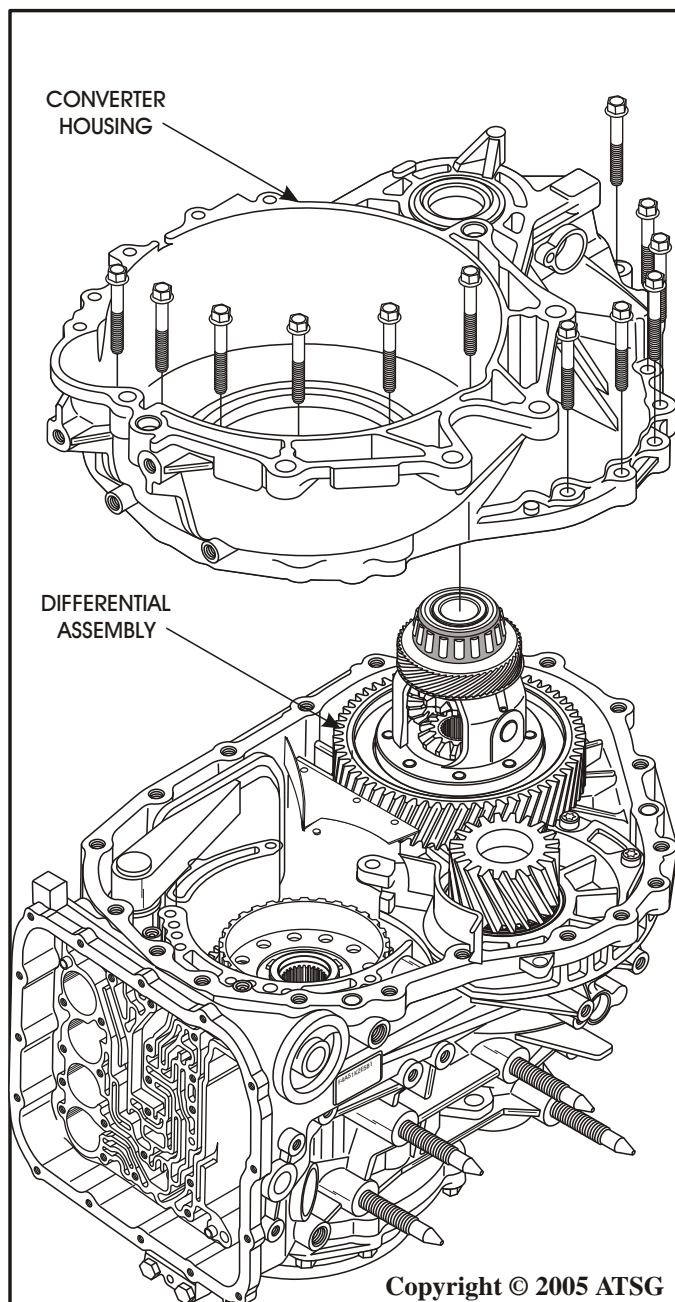

Figure 195
84. Install the differential into case, install the converter housing, as shown in Figure 195, and torque the converter housing bolts to 48 N·m (35 ft.lb.).